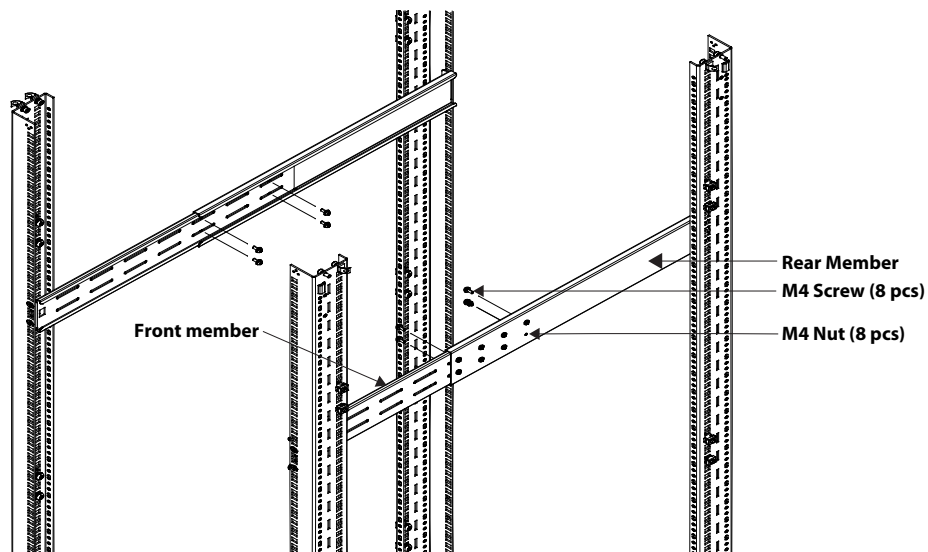

Figure 11: Fastening rear member and front member together
6. Fasten rear member and front member together using four M4 screws and four M4 nuts (M4 nuts have been installed on the rear member before delivery) per slide rail assembly as shown in Figure 11.